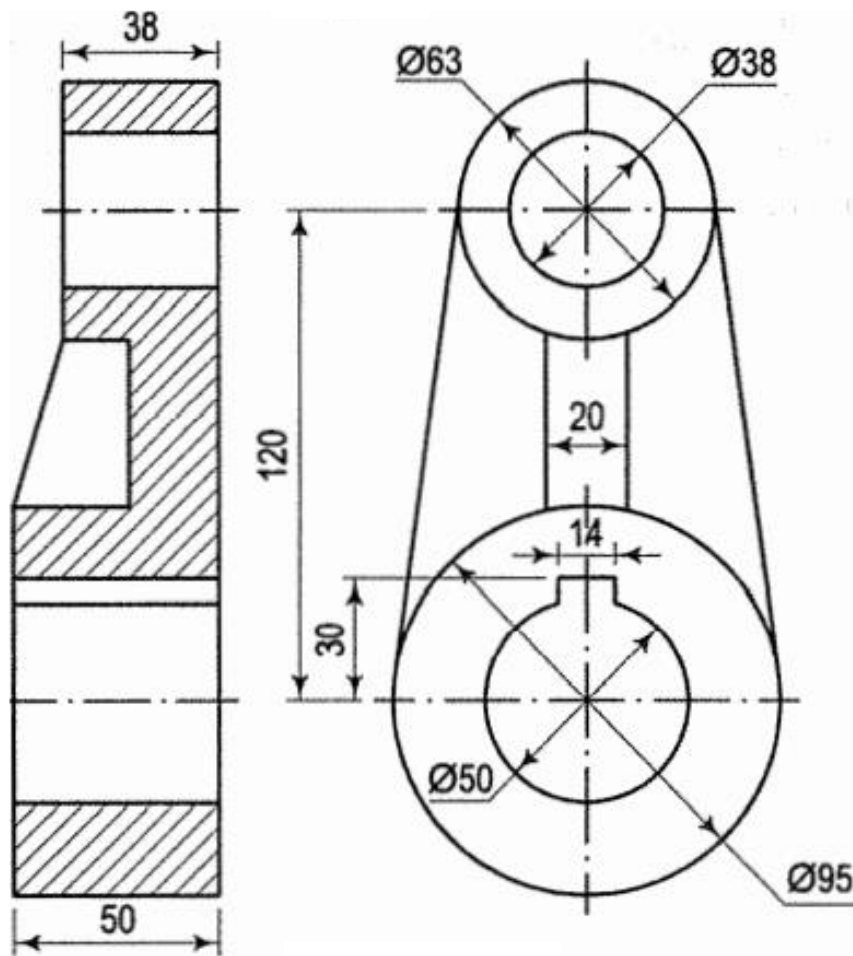

Figure 4
13. The front view and sectional side view of a casting is shown in figure 4. Draw the oblique projection when the receding axis is inclined at an angle of 45° with the horizontal.